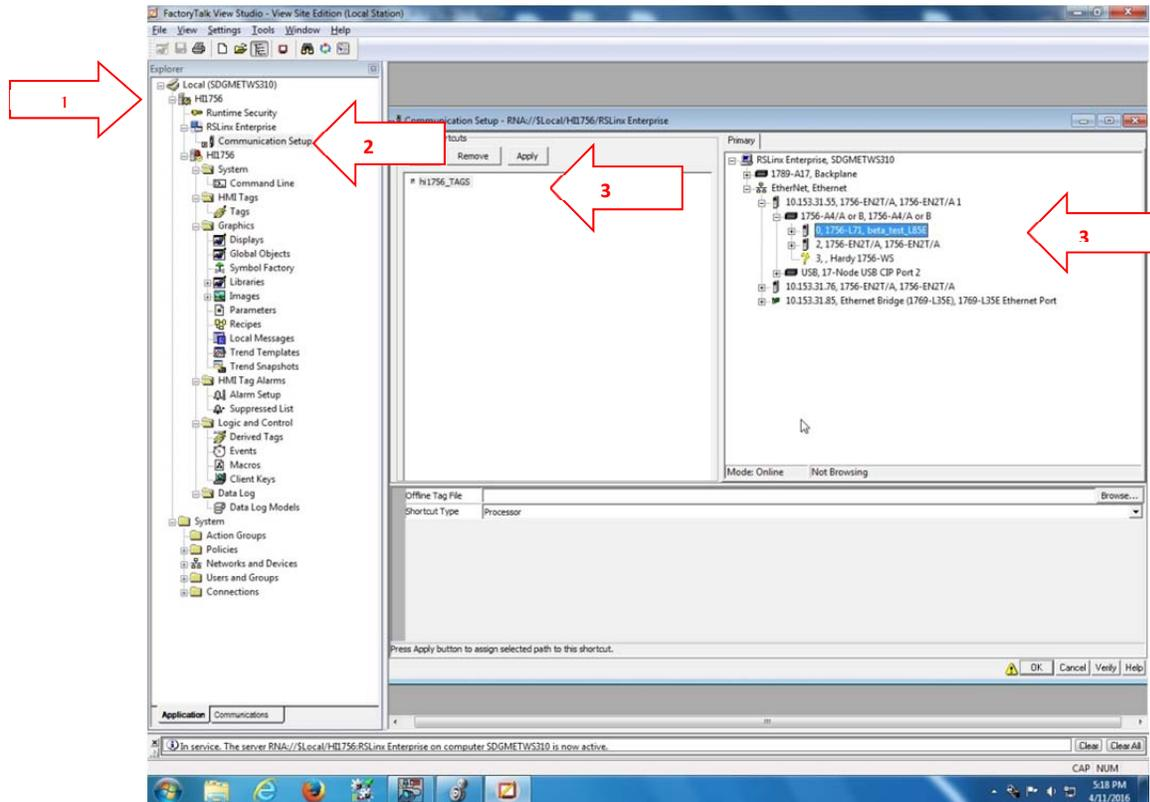

Figure 3
- Right click on the project name in the explorer navigation bar, found under Local (computer name). See Figure 3, note 1.
- First, add a New Server. Select Rockwell Automation Device Server (RSLinx Enterprise); the name can be left alone is if it is the only server in the project. Otherwise you will need to specify a different name. RSLinx Enterprise will appear in the explorer project tree; expand and double-click on "communication setup". See Figure 3, note 2.
- In the PRIMARY window expand the driver being used to connect with the PLC processor and highlight the processor. With both the processor and the shortcut tag names now highlighted; click OK then YES to apply changes. See Figure 3, note 3.